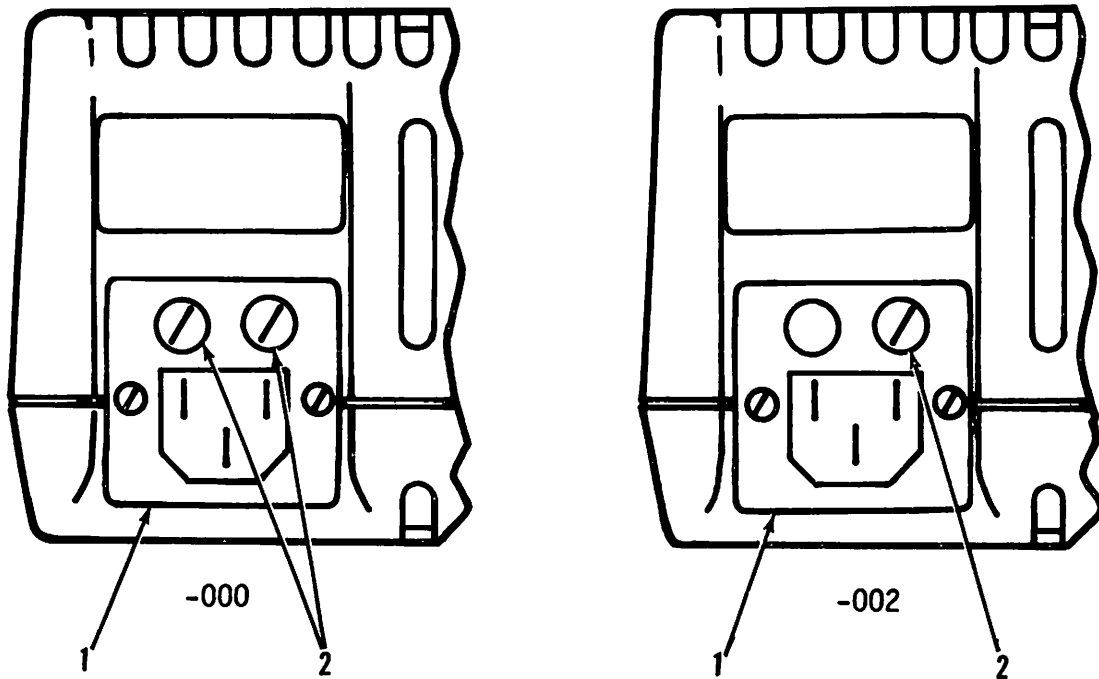

FIGURE 2-2. REAR PANEL
- B. Figure 2-2 provides the rear panel view of the Battery Support System. Each item on this figure is keyed to a corresponding listing in Table 2-2. The table lists the nomenclature of each item and briefly describes its function.